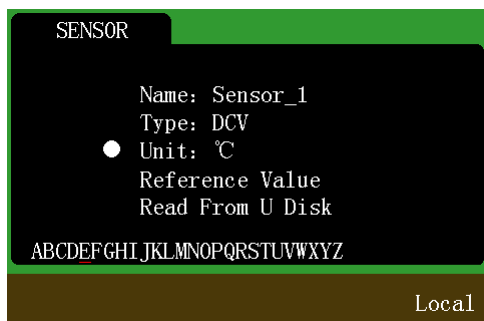

Figure 5-28 Sensor unit selection
3. When the dot cursor stays at "Unit", press the left / right arrow key or the Enter key to select the unit of the sensor, as shown in Figure 5-28. In this interface: